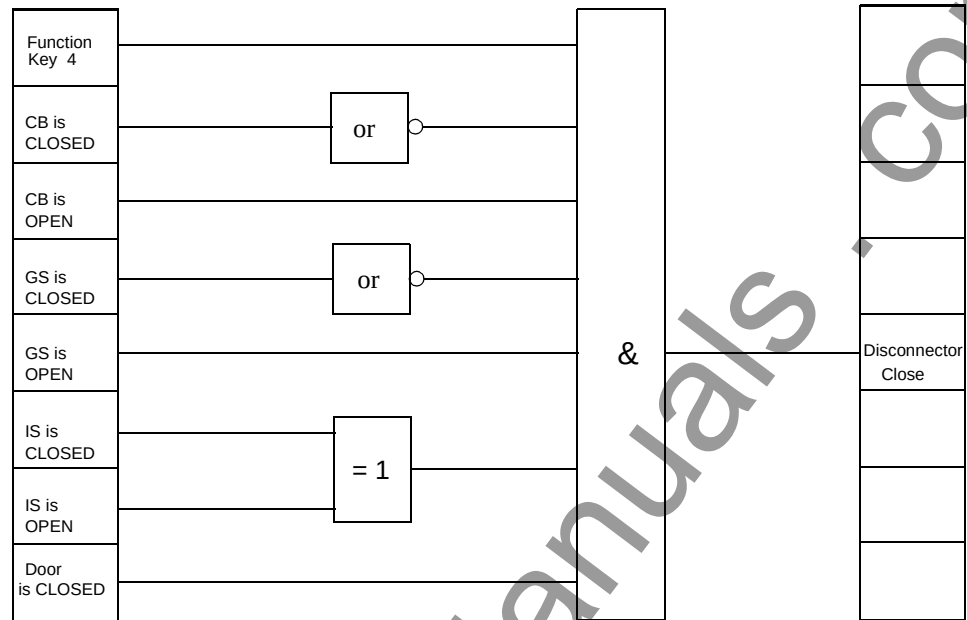

Figure 5-40 Interlocking an Disconnect Switch as an Example of a User Defined Interlock Protective Function
Interlocking logic (See Figure 5-40) is to be implemented for the operation of an isolating switch using function key 4. The user must take the switch position indications of the corresponding isolation switch and the grounding switch into account. The CLOSE and TRIP indications from the auxiliary contacts of each switch are used.
- The CLOSE indications from the circuit breaker (CB) and from the grounding switch (GS) are supplied to the inputs of the NOR functions.
- The OPEN indications from the circuit breaker (CB) and from the grounding switch (GS) are supplied to the inputs of the AND function.
- The switch position indications from the disconnect switch (IS) are linked to the inputs of the XOR function.
- Function key 4 is linked with an input of the AND function.